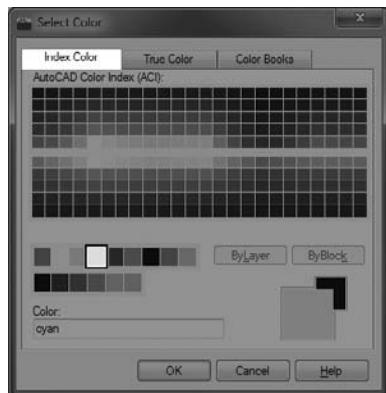

FIGURE 6.8 The Index Color tab in the Select Color dialog box
3. To open the Select Color dialog box, click the word “white” in the Color column for the A-WALL row (see Figure 6.8). Notice the three tabs at the top — Index Color, True Color, and Color Books. Each has a different selection of colors available to AutoCAD.